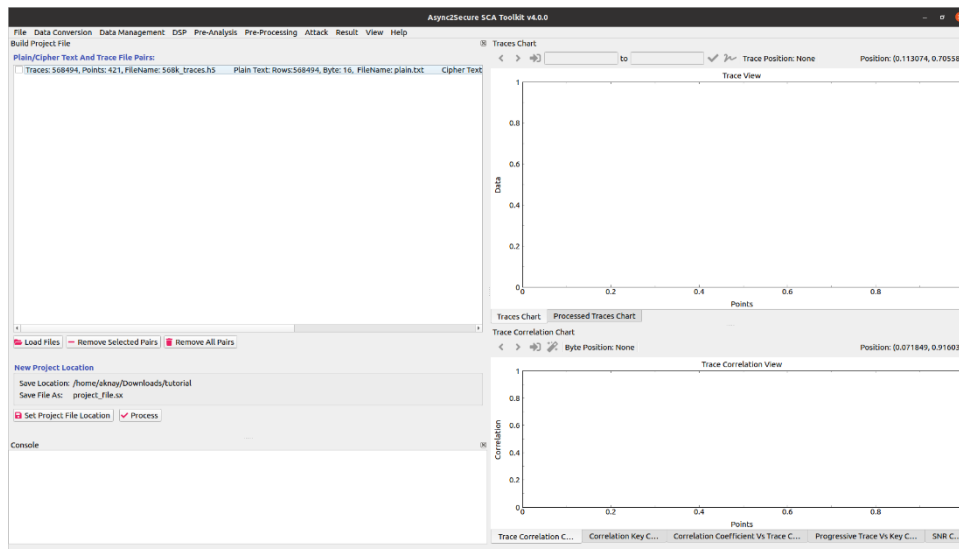

Figure 14: After adding files to the project file
- Thereafter, the current window “Add Files” is closed, and the previous window “Build Project File” is displayed again as shown in Figure 14.